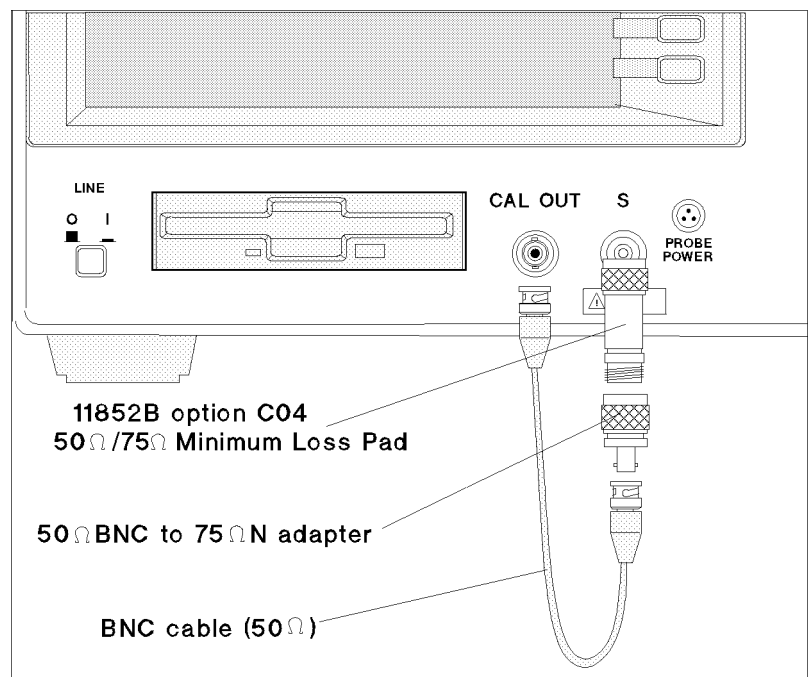

Figure 2-16.
4. Attach the 75 Ω N(m) to 50 Ω BNC(f) adapter to the 11852B option C04 50 Ω(m)/75 Ω(f) minimum loss pad that is connected to the S input. (See Figure 2-16.)